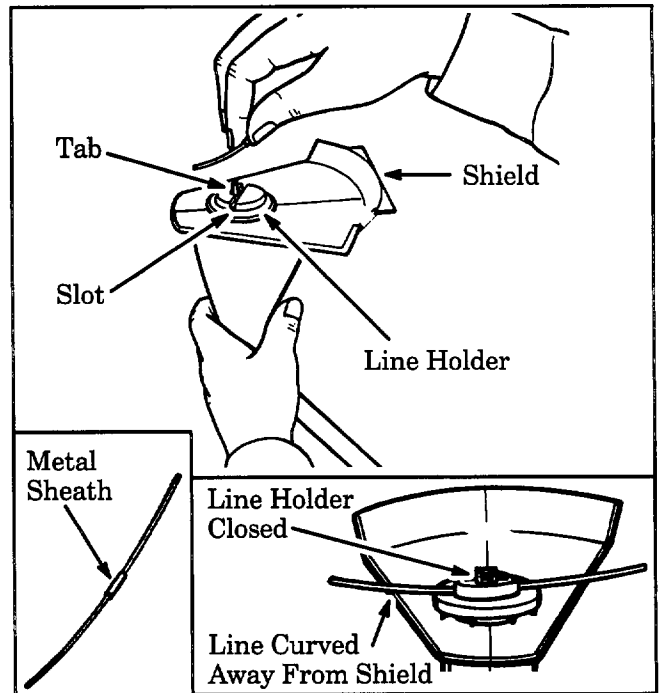

Figure 1
1. Hold the tool as shown in Figure 1.
2. Lift the tab on the line holder. Figure 1.
**NOTE:** If (in step 3) you are installing a trimmer line that is curved, make sure that the ends of the line are curved away from the shield. Figure 1 (inset, lower right). If the line contacts the shield when the unit is running, stop the motor and reinstall the line until it no longer contacts the unit.
3. Place the metal sheath [Figure 1 (inset, lower left)] into the slot in the line holder. Figure 1.
4. Push the tab down to the closed position. Figure 1 (inset, lower right).